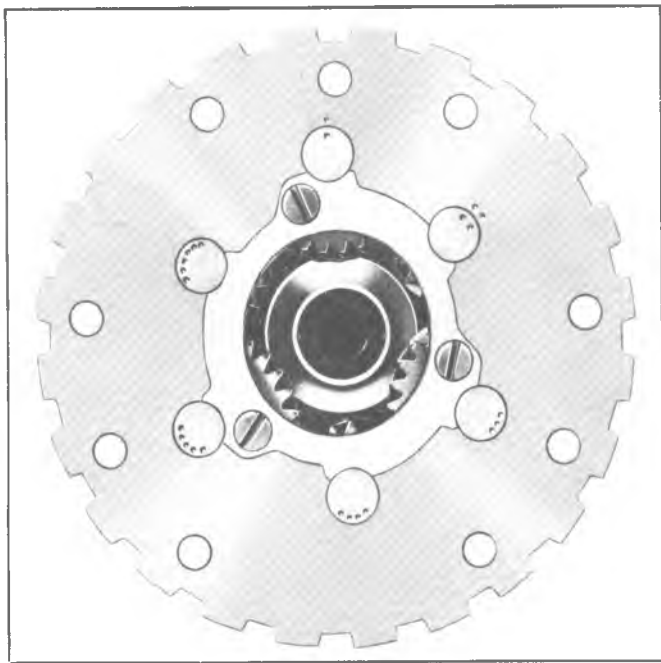

Fig. 25PG--Suggested Pinion Shaft Markings
2. Using prick punches or other similar means, mark each pinion shaft and also the planet carrier assembly (fig. 25PG), so that reassembling, each pinion shaft will be reinstalled in the same location from which it was removed.